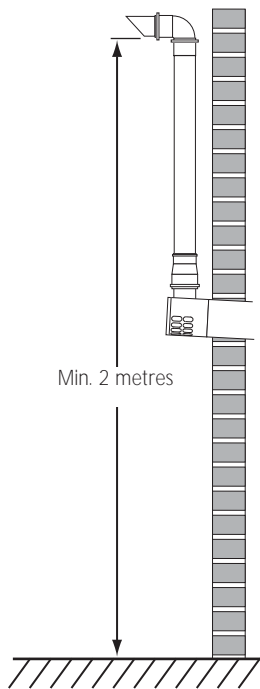

Fig. 28
2. When completed the terminal must be at least 2 metres above ground level (Fig. 28).